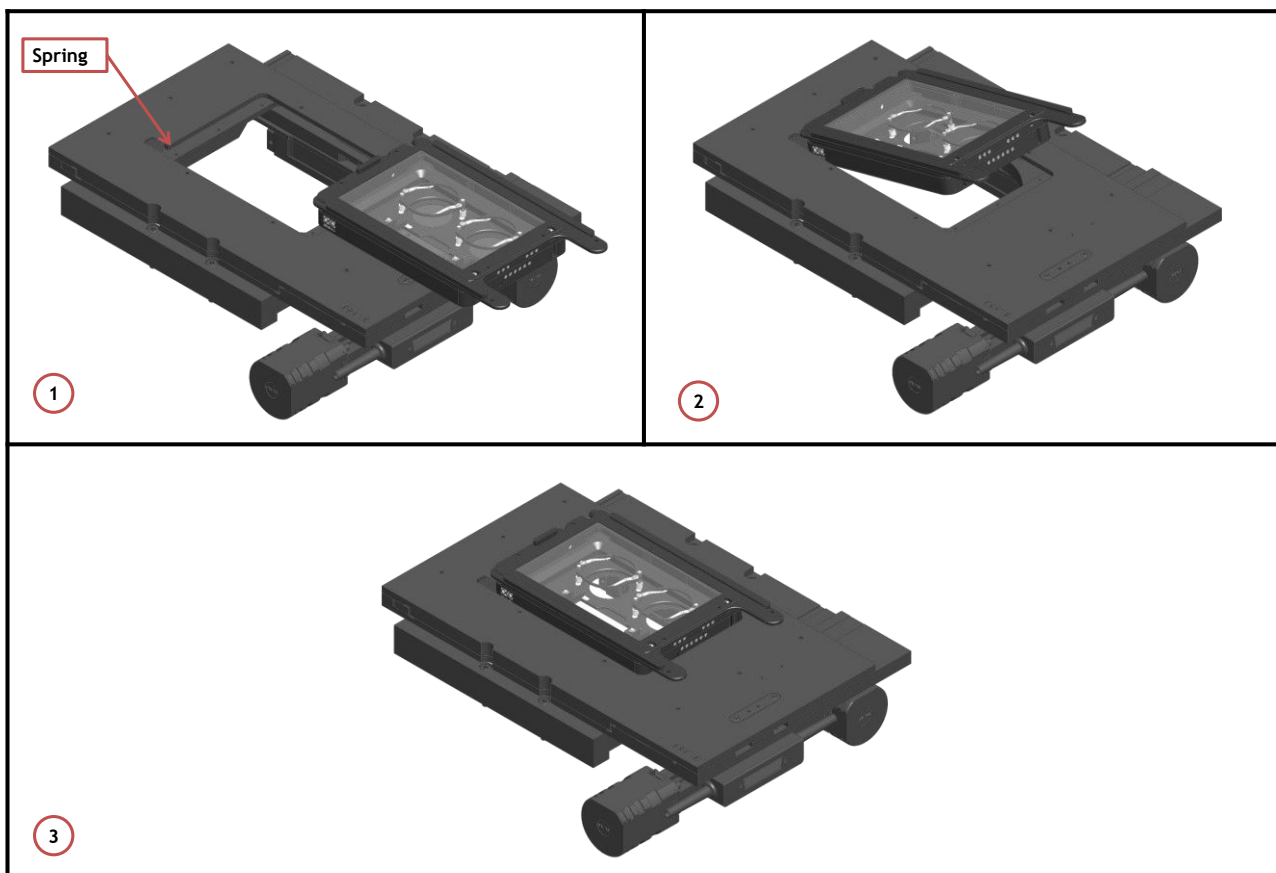

Figure 23. Connection of the Chamber with XY Stage
H201-PRIOR-H117 fits on the XY Stage without any screws. To fix the chamber on the stage, follow the steps shown in Figure 23.
1. Place the chamber on the stage (See Image 1 of Figure 23).
2. Incline the chamber and slide it in direction of the spring until it snaps into the housing. (See Image 2 of Figure 23).
Image 3 of Figure 23 shows the chamber fitted on the XY Stage.